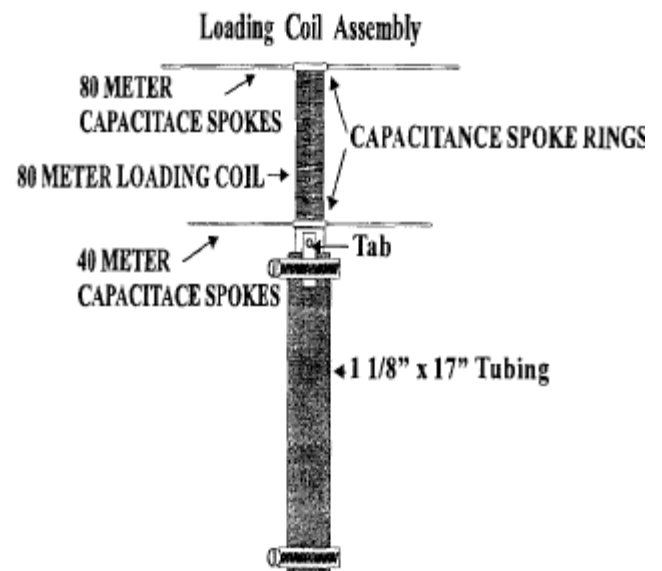

FIGURE 1
2. Place a 4-40 screw in each of the 16 loading coil assembly and secure holes on the capacitance spoke rings them in place by tightening the 4-40 and secure them using a 4-40-kep nut. Refer to figure 1. Snug each one using a 5/16" nut driver. Be careful not to lose the screws and nuts.
3. Place the large end of the 1 1/8" X 17" aluminum tubing over the end of the loading coil assembly tube as shown in Figure 1.
4. Secure the tubing in place with one of the supplied hose clamps. Be sure to place the connection tab between the aluminum tubing and the clamp as shown in Figure 1.
secure the MK-80 to an existing AV 14AVQ antenna. See Figure 1.
6. Place four capacitance spokes into each of the spoke rings located on the 80 meter loading coil assembly and secure holes on the capacitance spoke rings them in place by tightening the 4-40 and secure them using a 4-40-kep nut. Refer to figure 1. Snug each one using a 5/16" nut driver. Be careful not to lose the screws and nuts.
1. Assemble the antenna using the supplied instructions. Figure 1 on page 4 of the AV-14AVQ manual gives approximate dimensions.
- a. Place one of the hose clamps supplied with the MK-80 directly above the black ABS cover of trap 11-10. Figure 1 on page 4 shows the location of this trap.
- b. Place one of the hose clamps supplied with the MK-80 directly above the black ABS cover of trap 14-15. Figure 1 on page 4 shows the location of this trap.
- c. Place one of the hose clamps supplied with the MK-80 directly above the black ABS cover of trap 15-20. Figure 1 on page 4 shows the location of this trap.
already on the antenna, remove it. Refer to Figure 1.
Tune the AV-14AVQ according to the instruction manual. Figure 1 on page 4 gives the dimensions for operation on 10, 15, and 20 meters. Remember to start with the 10 meter band.